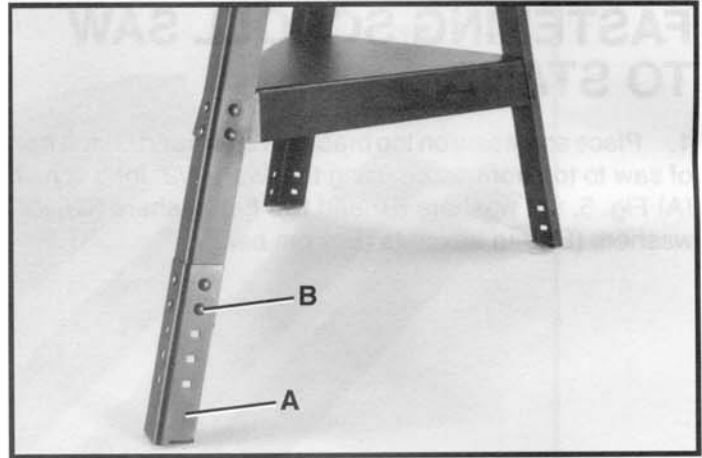

Fig. 9
1. A height extension (A) Fig. 9, is supplied with your stand and can be assembled to the rear leg of the stand, as shown, using the four carriage bolts (B), flat washers and nuts supplied. The height extension enables you to tilt the saw forward during operation if desired. Five holes are supplied in the extension (A) to vary the degree of tilt.